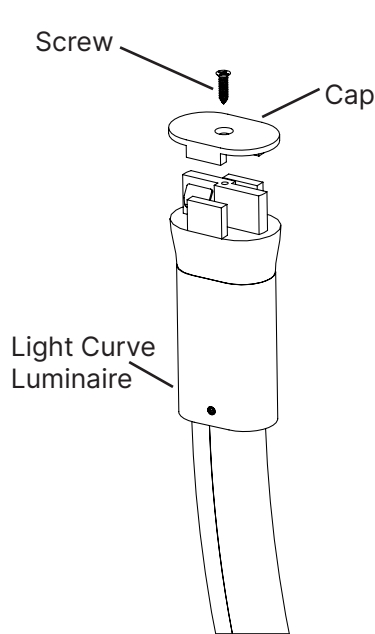

Fig. 1
1. Remove **Screw** and **Cap** from each end of the **Light Curve Luminaire**. (Fig. 1)
1. Insert the **Trim Ring** into the **Shade**. (Fig. 1)